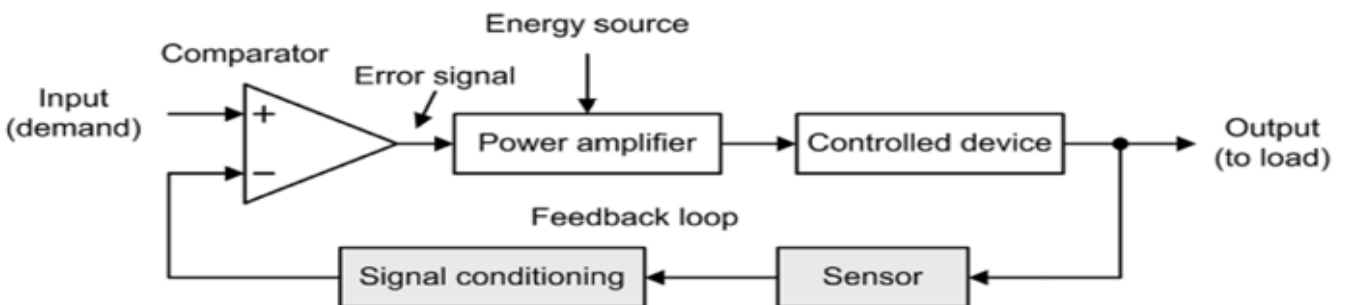

Fig. 3.2 (b) A control system
- Fig. 3.2(b) shows the arrangement of a control system.